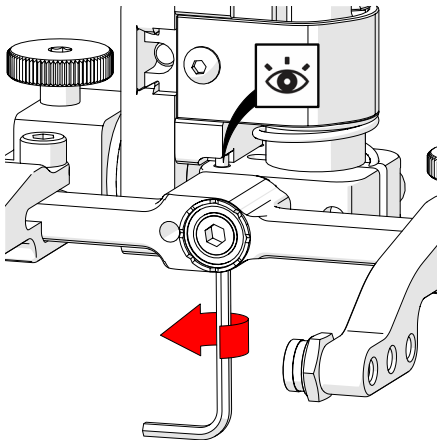

Fig. 99 - Raise opposite 90° stop post
8. Raise the stop post on the opposite side until the side of the post clearly contacts the 90° stop point on the probe holder's base (Fig. 99).